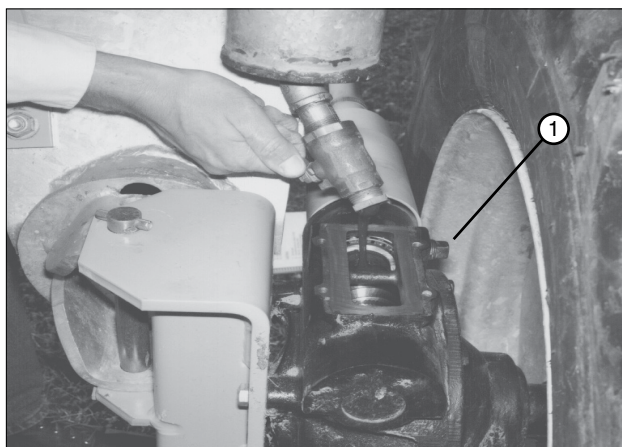

Figure 74-3 1. Check Plug
- Fill gearbox to the top of worm gear shaft or remove the check plug and fill until the oil begins to flow out of the check plug hole. See Figure 74-3.